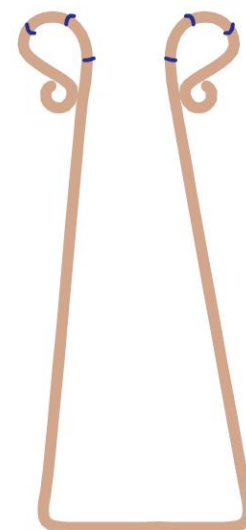

figure 2
- 6 Use the tips of round-nose pliers to form a loop on each wire end. The loops should point toward the inside of the frame wire (Figure 2).